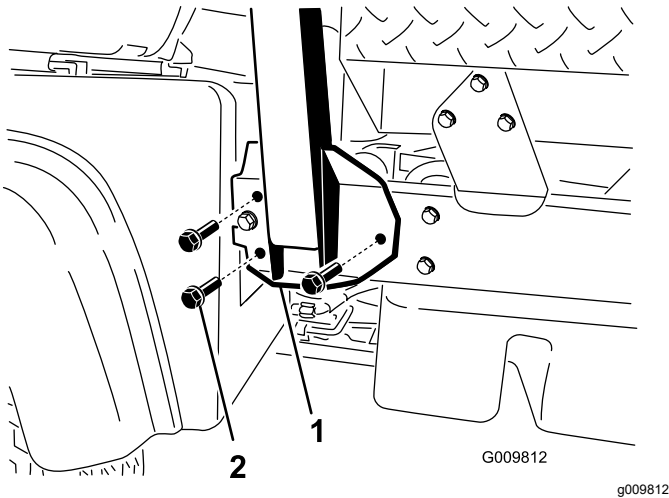

Figure 4
1. Align each side of the ROPS with the mounting holes in the frame at each side of the machine as shown in Figure 4.